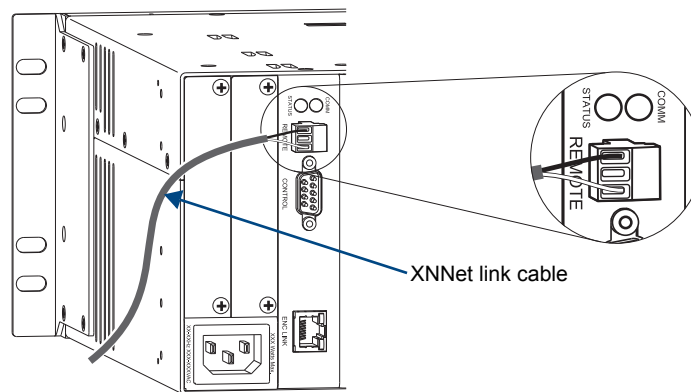

FIG. 11 Insert wires into REMOTE connector on CPU
4. Insert the two wires of the XNNet link cable from the device into the REMOTE connector leaving the center slot empty (FIG. 11).